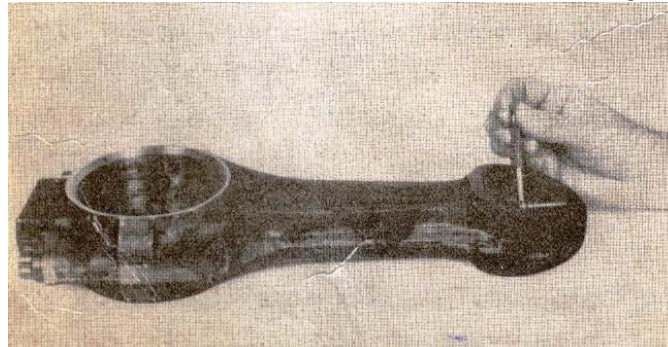

Fig. 1-32. Miking the piston pin bushing
4. Bore the bushing to 2.401” to 2.4015” (60.98 to 60.993 mm) inside diameter. Remove the rod from the ST – 526 & measure with the dial bore gauge. Fig. 1-32.